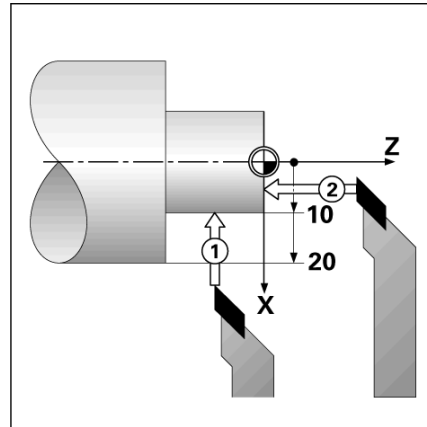
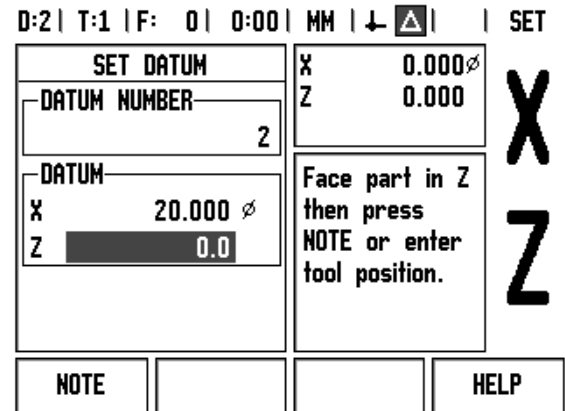

Fig. I.55 Setting a workpiece datum
Fig. I.56
**Example: Setting a workpiece datum. See Fig. I.55 & Fig. I.56.**